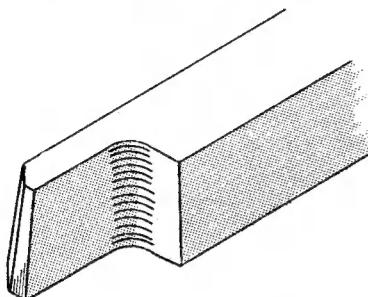

Fig. 6. Tool for machining spigot on mandrel
*Operation 2.* The 1-in. dia. B.S.F. thread has now to be machined, but first the 1 1/2-in.  $\times$  3/8-in. dia. portion of the mandrel must be rough machined to allow the screw-cutting tool to clear when it has passed over the threaded portion of the work. The rough turning operation and the subsequent final turning of the 3/8-in. dia. portion to size may be carried out with an angular parting tool mounted in the back toolpost. This tool should have a slight facet at the top, as shown in Fig. 6, in order to impart a good finish to the work. When the rough turning has been completed, an external threading tool is mounted in the top-slide toolpost, which is set over to 27 1/2 deg., that is, one-half of the included angle of a Whitworth Standard V-thread. The necessary change wheels to cut 1-in. B.S.F. or 10 threads-per-inch, are then set up, and the lathe is turned by hand to